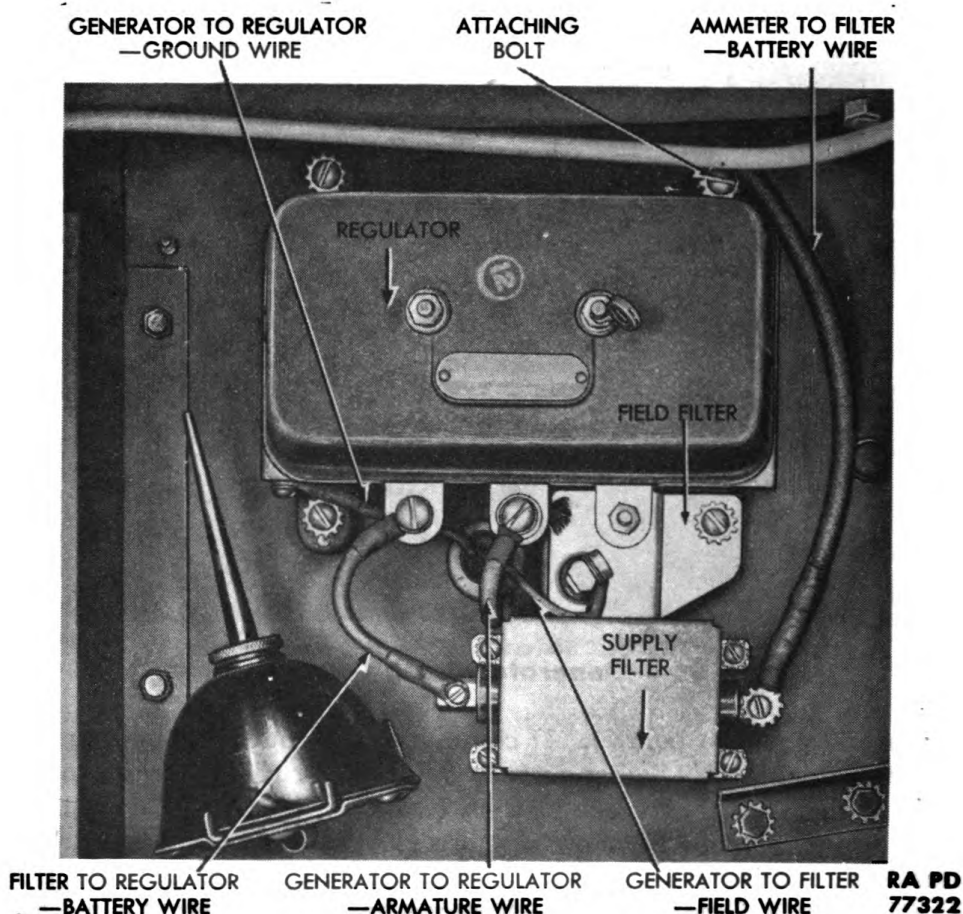

Figure 57 — Generator Regulator Installed
a. Description (fig. 57). The current and voltage regulator is mounted in the driver's compartment on the dash under the glove compartment. It is composed of three units: circuit breaker, current limiting regulator, and voltage regulator. The circuit breaker operates the same as a cut-out relay. It prevents the battery from discharging through the generator when the engine is not running. The current limiting regulator controls the amount of current delivered by the generator to the batteries. It prevents overcharging. The voltage regulator controls voltage built up by the electrical system. It thus prevents damage to lamps, circuit breakers, and other units of the electrical system.
b. Removal (fig. 57).
(2) **DETACH REGULATOR FROM DASH** (fig. 57). Remove the four screws and toothed lock washers which attach right-hand cowl opening door (fig. 1) to cowl. Lift door from opening. Remove the four nuts, toothed lock washers, bolts, and toothed lock washers which secure regulator to dash. Lift unit from dash.
(1) **ATTACH REGULATOR TO DASH** (fig. 57). Place unit in position on dash. Install the four toothed lock washers, bolts, toothed lock washers, and nuts which hold regulator to dash. Place door in position on cowl opening and install the four toothed lock washers and screws.
(2) **CONNECT WIRES** (fig. 57). Connect wires to regulator as follows: black wire from harness to ground terminal, red wire from supply filter below regulator to battery terminal, and red wire from harness to armature terminal. Connect field filter to field terminal of regulator.